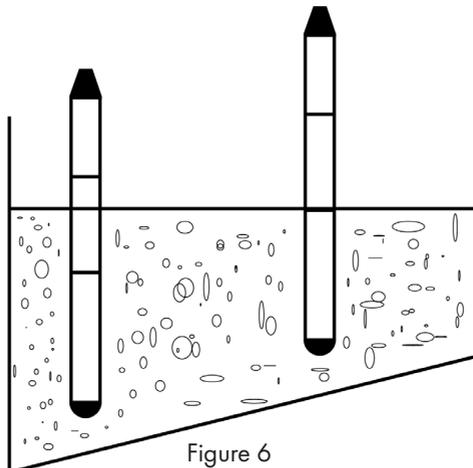

Figure 6
- When compacting vertical concrete layers on an inclined formwork level, start at the lowest point. (Fig. 6)